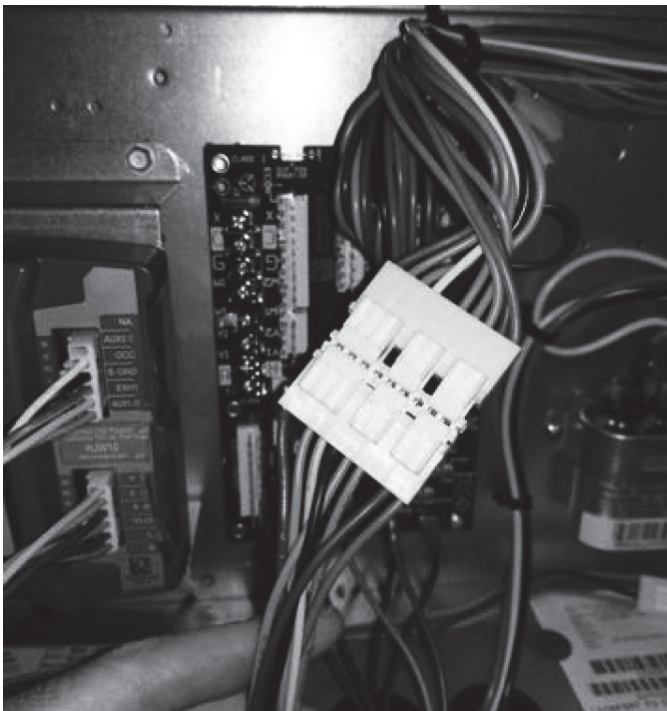

Fig. 9 — Connect 10-pin Plugs Together
12. Connect the 10-pin female ECON plug removed from the CTB to the 10-pin male plug from the controller harness. See Fig. 9 and 23.